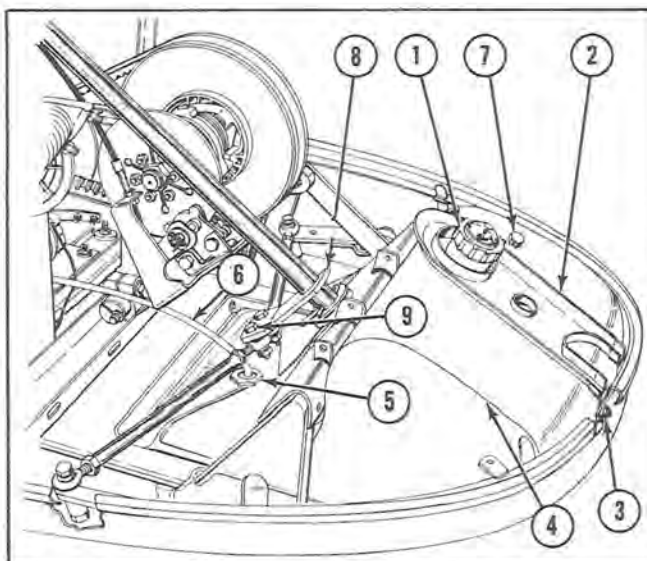

Figure 13
- Remove the gas cap and indicator assembly (1, figure 13).
- Remove the bolts (3) and washers securing the gas spill chute (2) to the main frame and remove the gas-spill chute.
- Disconnect the tank-to-carburetor gas line (6) at the gas tank outlet fitting (5). Wipe up any spilled gasoline immediately.